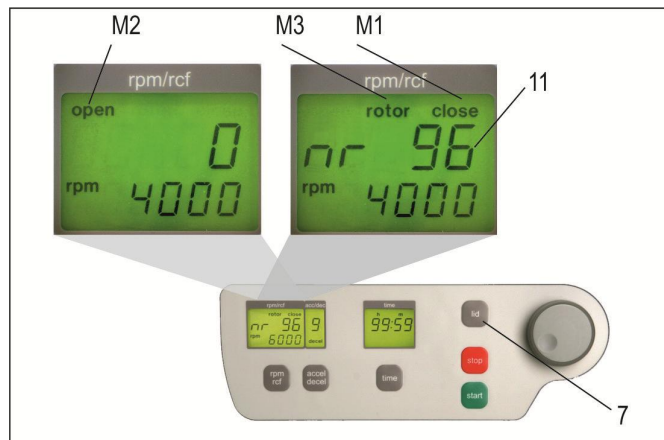

Figure 12
All with number marked passages refer to figure 12.
The lid must only be pressed slightly to its lock. After the lock is closed, at the same time disappears the word „open“ (M2) in the display. As a sign that the centrifuge is ready for starting it appears in the display „rpm/rcf“ (A-1) the word „close“ (M1). Simultaneously it appears in that display the word „rotor“ (M3), as well as the code number of the rotor, which is in the centrifuge i. e. „nr 96“ (11). With that all rotor specifically datas, like e. g. max. speed, acceleration etc., are adopted (see figure 12).